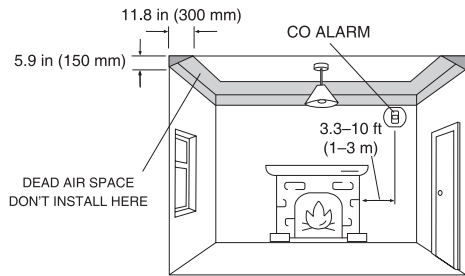
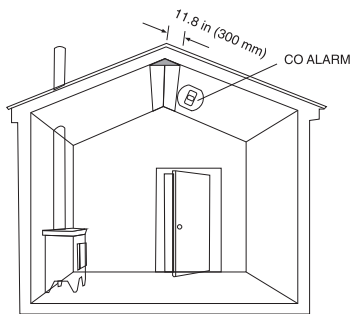

Figure 1: Installation in a room with a fuel-burning appliance
Figure 2: In rooms with sloped ceilings, the CO alarm should be located at the high side of the room
1. Installing a CO Alarm in a Room with a Fuel-Burning Appliance (See Figure 1 and Figure 2):
- In rooms with sloped ceilings, the CO alarm should be located at the high side of the room (see Figure 2).